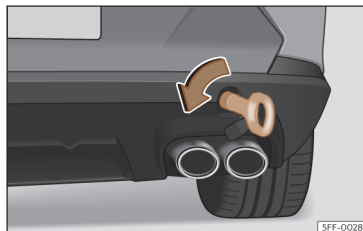

Fig. 202 Right side of the rear bumper: towline anchorage screwed in.
- Screw the towing eye in the housing by turning it to the maximum **anticlockwise** >>> Fig. 202 , >>> ⓘ. Use a suitable object that can completely and securely tighten the towing eye in its housing.